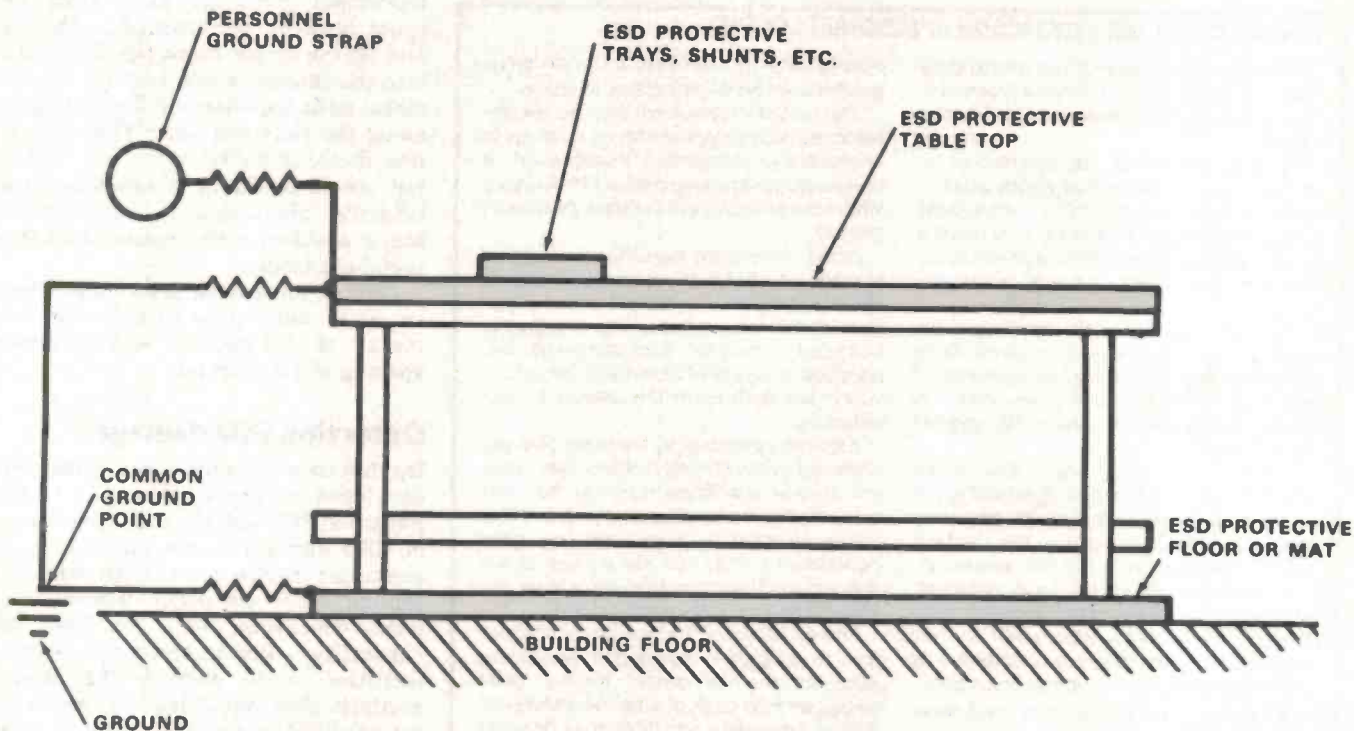

Figure 5. Typical ESD grounded work bench.
3. Maintain good grounding techniques by keeping equipment and personnel at the same potential. Use conductive countertops, floor matting, wrist straps, or arm sleeves, and make proper connections to a grounding source. (See Figure 5.)